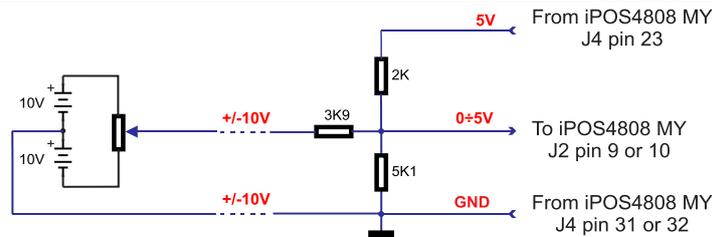

Figure 3.9. +/-10V to 0-5V adapter
1. Default input range for analog inputs is 0÷5 V for REF and FBDK. For a +/-10 V range, see Figure 3.9.